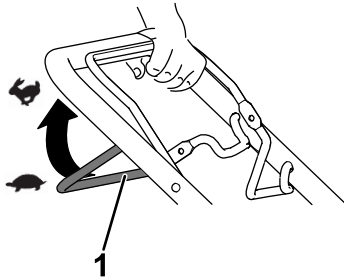

Figure 14
- To engage the self-propel drive, pull the self-propel-drive bar to the handle and hold it (**Figure 14**).